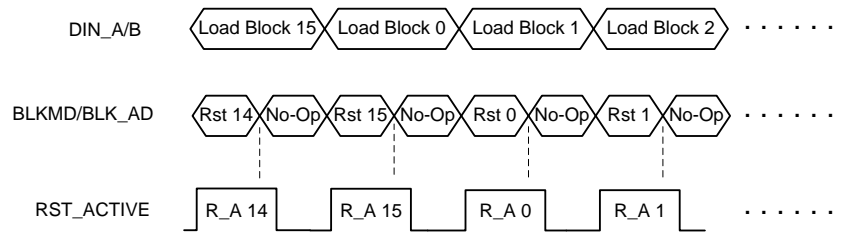

Figure 15. Single Block Phased Mode with Longer Block Load Times
Single Block Phased Mode is best described as "phasing" the data load operation with the Block Reset operation. The major advantages of Phased Modes (Single, Dual, and Quad) in general are the idea of not having to wait for the micromirror settling time duration to complete prior to the next block reset, and for not having to wait for the Reset Request to complete prior to loading more data. In the example of 图 15, Block 15 is loaded with data while the Reset operation is taking place for Block 14 (Rst 14). The Reset Request (BLKMD and BLK_AD) for Block 14 needs to be one row cycle in duration minimum but can be extended to additional row cycles. Subsequent row cycles containing a valid Reset Request will be ignored until RST_ACTIVE goes low. Therefore, BLKMD and BLK_AD should transition from a Reset Request to a Block No-Op while RST_ACTIVE is still asserted as once RST_ACTIVE de-asserts there is the likelihood of an undesired Reset Request to be generated on the same block.
In 图 15, Block 0 is issued a Block Reset concurrently with data being loaded into the next block (1). The Row Cycles of the Block 1 data loading capture the Reset Request for Block 0, and provide continued Row Cycles for the duration of both the Block Load and the Block Reset. Note that the loading of block 1 does not need to wait for the mirror settling time of Block 0. This is repeated until the last block is Reset (which might also contain loading the next Block 0 data). Since the DLP650LNIR block load time is already longer than the RST_ACTIVE time, full utilization of its bandwidth is readily achieved in a single block phased mode.